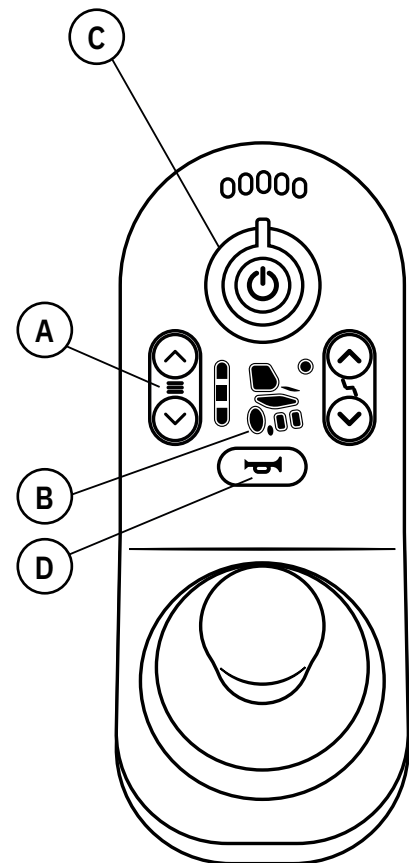

Figure 5.6. Controls for driving functions on the LiNX REM211.
Controls for driving functions are illustrated in Figure 5.6.
- Press the buttons (A); see Figure 5.6. for driving profile selection. The selected driving profile is indicated on the display with one, two or three lit LEDs.